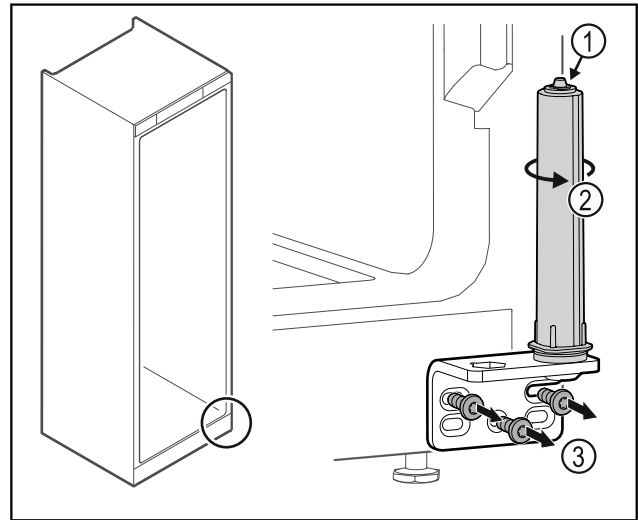

Fig. 39
- Do not disassemble the door closing system Fig. 39 (1).
- Turn the closing system Fig. 39 (2) until it clicks.
- Unscrew the hinge Fig. 39 (3).